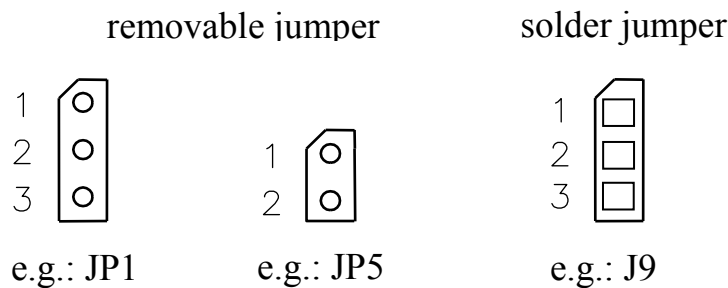

Figure 4: Typical Jumper Numbering Scheme
The phyBOARD-Subra comes pre-configured with removable jumpers (JP) and solder jumpers (J). The jumpers allow the user flexibility of configuring a limited number of features for development constraint purposes. Table 5 below lists the jumpers, their default positions, and their functions in each position. Figure 4 depicts the jumper pad numbering scheme for reference when altering jumper settings on the development board.